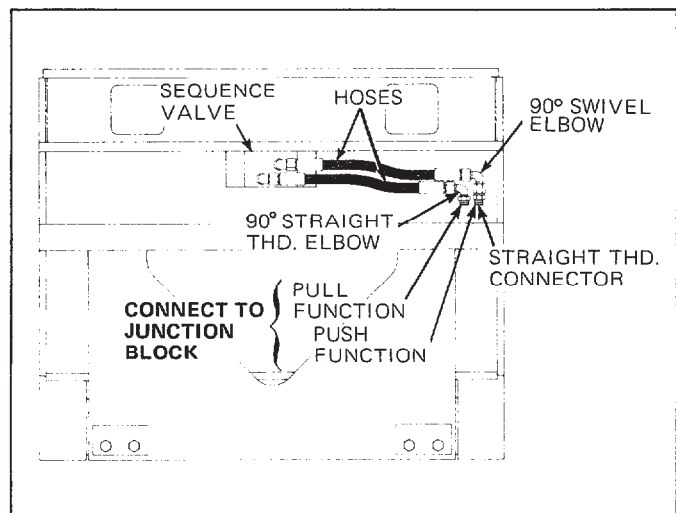

Figure 2. Plumbing for a Basic (non-sideshifting) Attachment
1. Install Cascade Attachment Installation Kit No. C-663589 OR plumb No. 6 (minimum) hoses to the truck junction block. See Figure 2. Do not pinch, twist, or otherwise damage the hoses.
3. Connect the push/pull hoses to the sequence valve as shown in Figure 2.